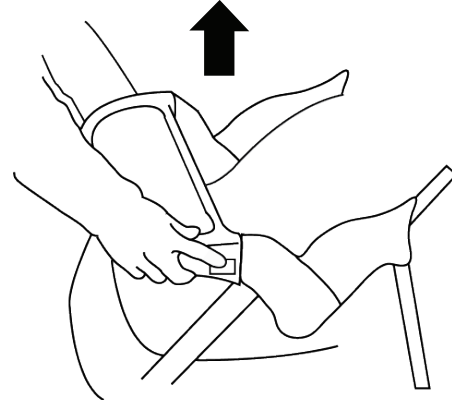

Fig. 13
12. To remove the child tray: Press the right and left release buttons and pull upward on child tray. (Fig 13)